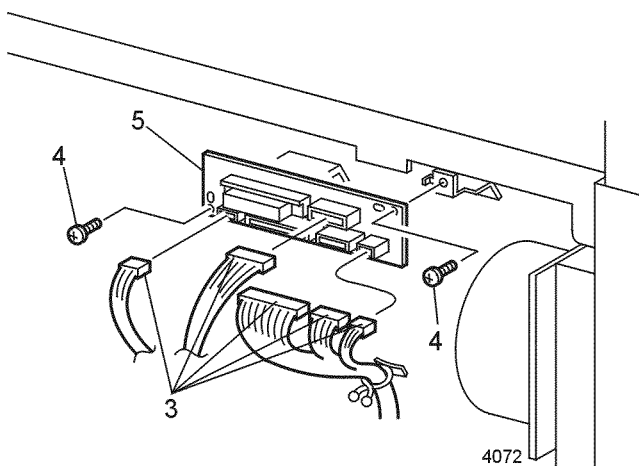

Figure 1 Duplex Interface PWB
3. Disconnect P/J501, P/J504, and P/J506 from the Duplex Interface PWB (Figure 1).
4. Remove the two screws that secure the Duplex Interface PWB to the printer (Figure 1).
5. Remove the Duplex Interface PWB (Figure 1).